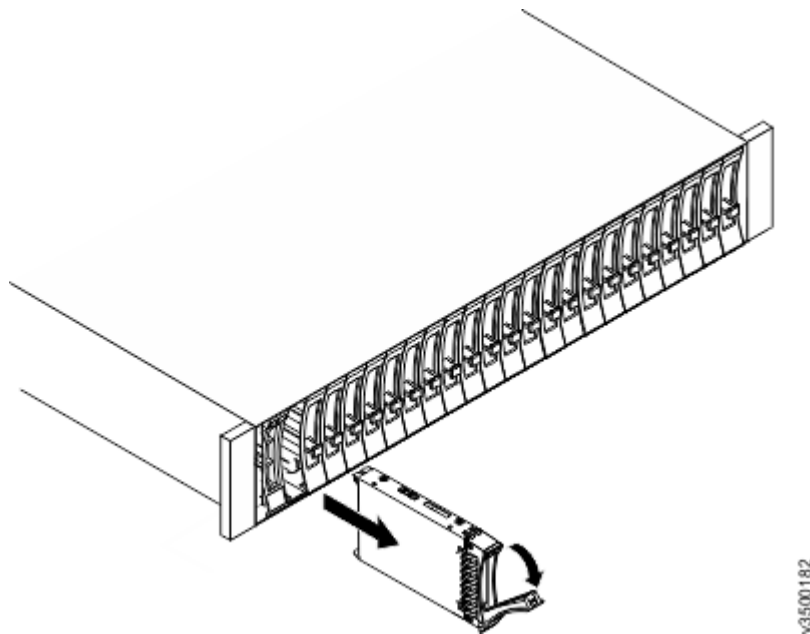
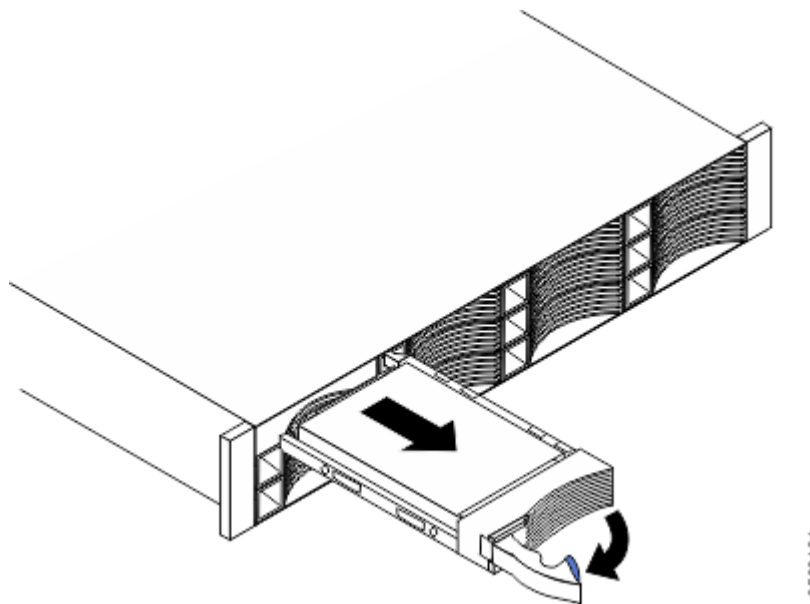

Figure 82. Removing a vertical style hard disk drive
Figure 83. Removing a horizontal style hard disk drive
6. Carefully remove each hard disk drive and label it with the drive slot from which it was removed (so that the drives can be inserted back into the same slots). Refer to Figure 82 on page 146 or Figure 83 on page 146.